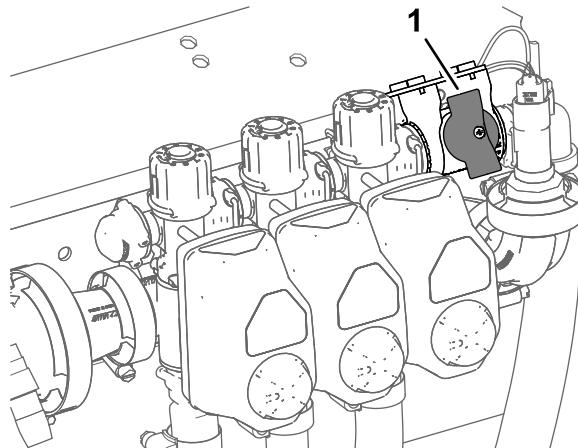

Figure 37
2. Rotate the knob for the section-bypass shutoff valve to the closed position (Figure 37).